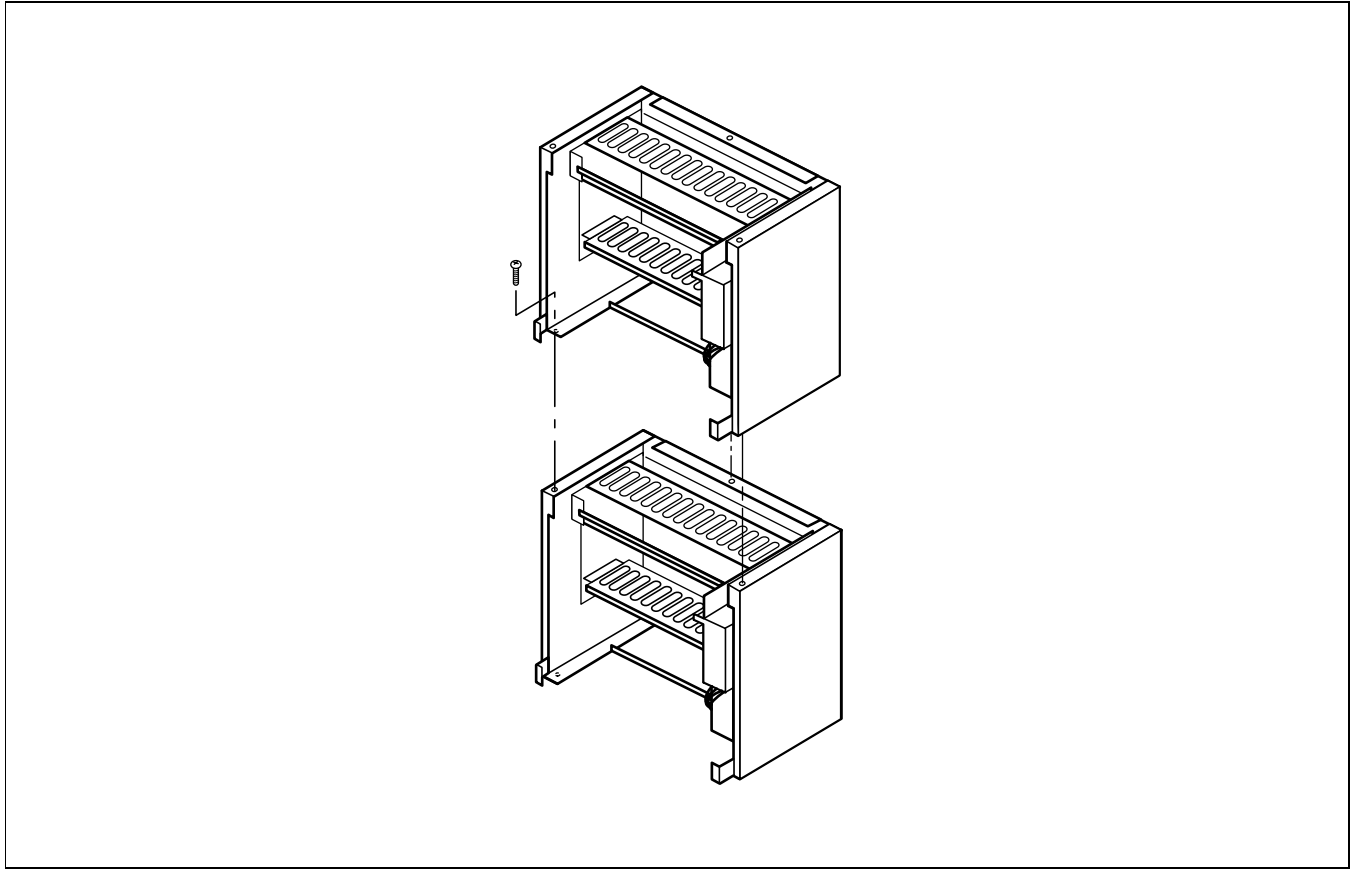

Figure 003-1 Connection of PIMs
- (1) When the system is two PIM configuration, connect PIMs with three bolts as shown in Figure 003-1.